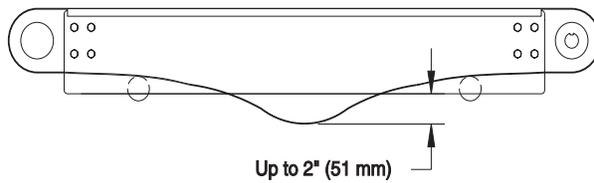

Figure 20
1. Check belt sag by measuring from the bottom of conveyor frame (**Figure 20**). Belt sag should not exceed 2" (51 mm).